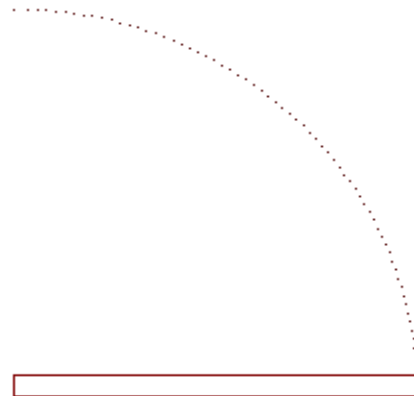

Fig. 6.2: 2'03" x 0'1.5" door
- Similarly save door2.dwg file where the size of rectangle will be 2'03" x 0'1.5" as shown in Figure.6.2.